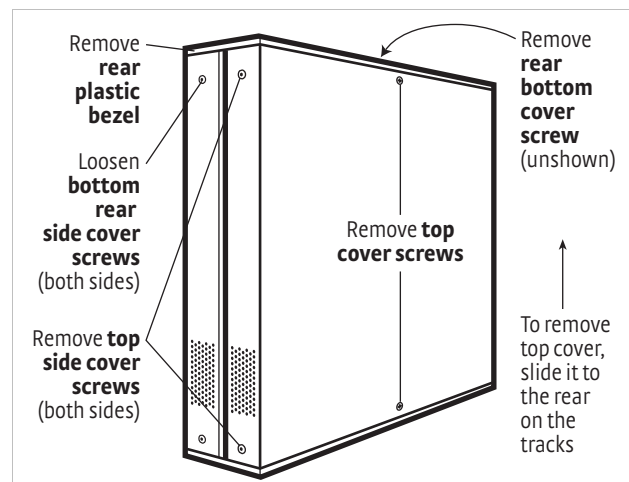

FIGURE 8-10 Cover removal
2. Stand the unit on its face. Use a 5/64 in hex driver to remove the 4 screws on both sides of the top cover. Loosen the 2 rear bottom screws (FIGURE 8-10).
3. Use a small Phillips screwdriver to remove the 2 top cover screws and 1 rear bottom screw (FIGURE 8-10).